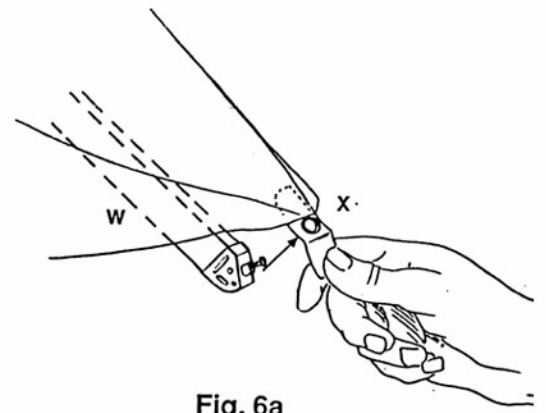

Fig. 6a
2. (fig. 6a) unscrew the screws (V'') and release the grommet tabs (X) from the ribs (W).
## **CHANGING A RIB (Fig.6a, 7, 7a):**
1. (fig. 6a) unscrew the screw (V'') and release the grommet tab (X) from the rib (W).